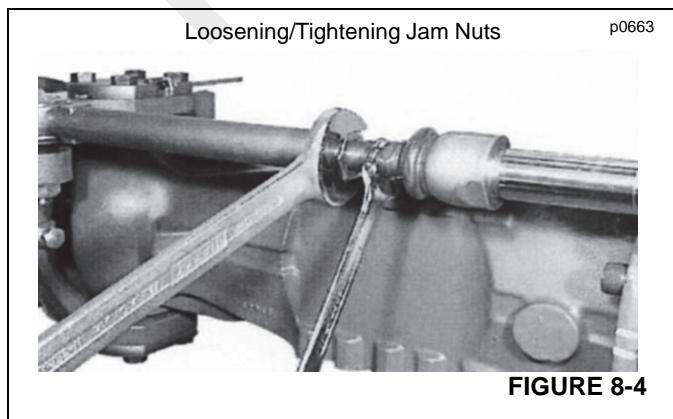

FIGURE 8-4
3. If tow-in is incorrect, loosen the jam nuts (Figure 8-4) securing the guide rods to the cylinder rod.
5. After the adjustment is correct, tighten the jam nuts (Figure 8-4) against the guide rods.